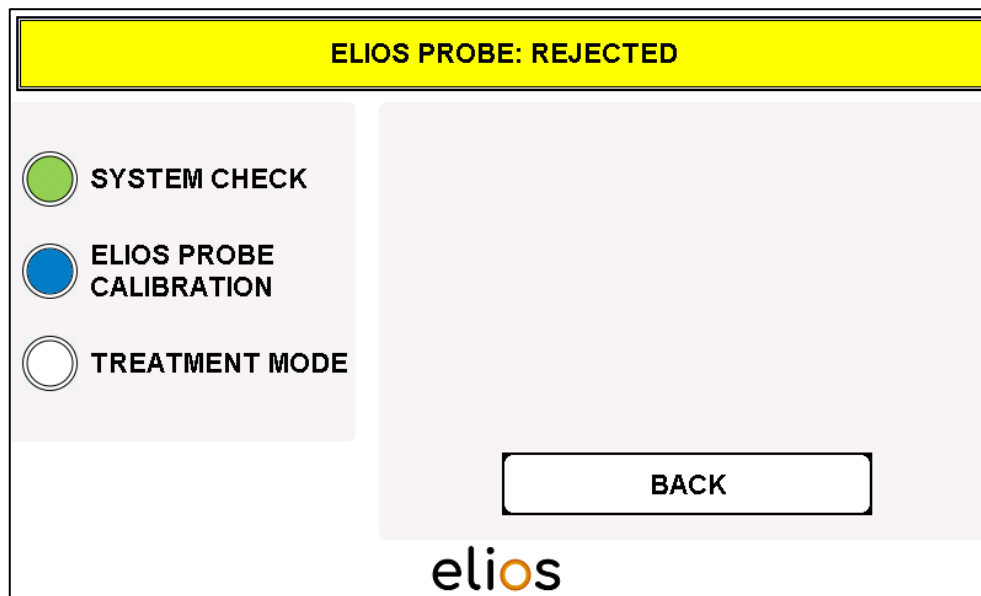

Fig. 4-8: Fiber recognition – ELIOS PROBE: REJECTED
- The software recognizes already used and resterilized fibers and prevents their use. The notification “**ELIOS PROBE: REJECTED**” is shown and it is not possible to continue in the program (Fig. 4-8).
- The previous menu is reached again by pressing "**BACK**" (Fig. 4-8).